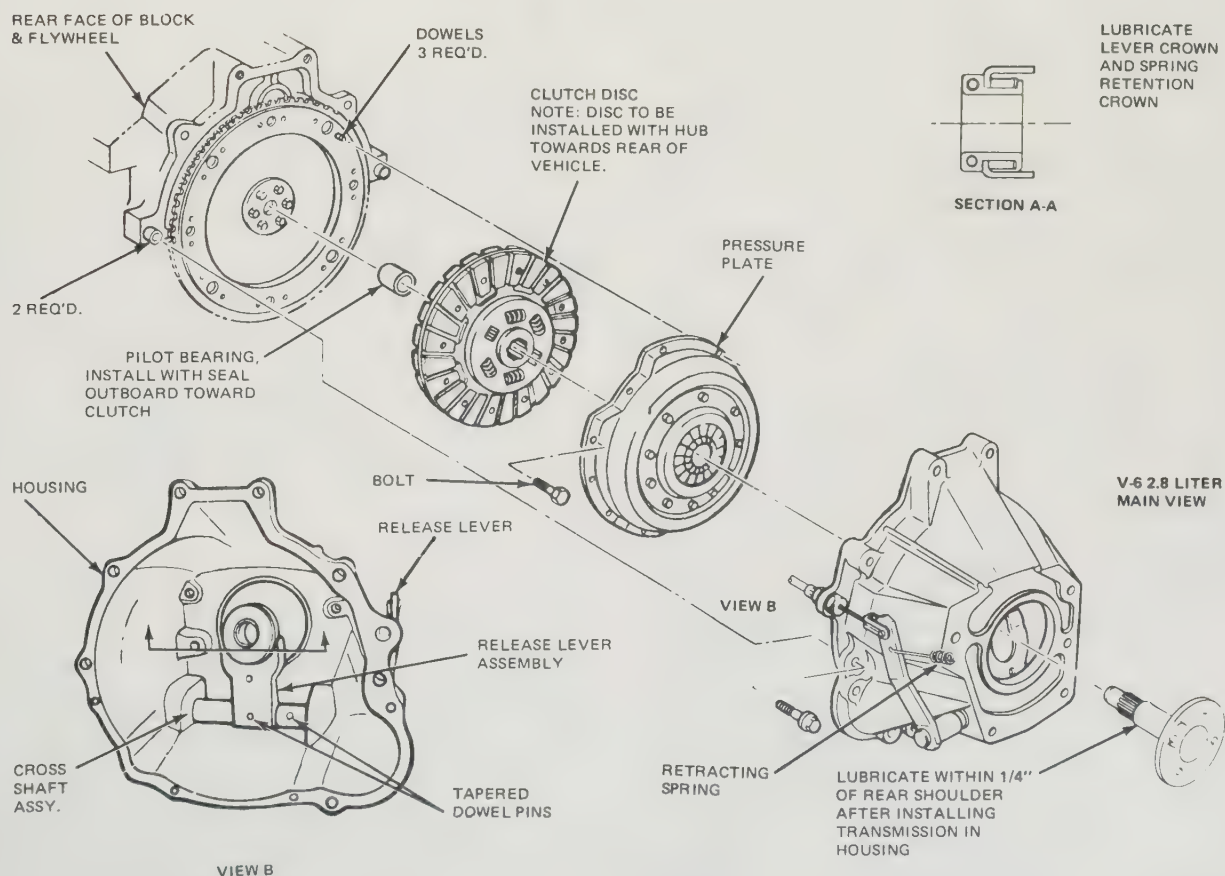

Fig. 5.2. V6 clutch assembly
- 7 The clutch release lever on the V6 engine is operated by a cross-shaft located in the bottom section of the clutch housing (see Fig. 5.2).